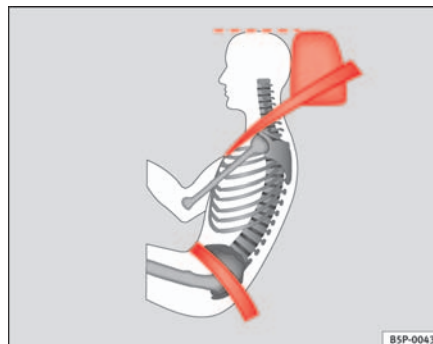

Fig. 13 Correct belt web and head restraint positions, viewed from side ▶
- The lap part of the seat belt must lie across the pelvis, never across the stomach. The seat belt must lie flat and snugly on the pelvis ⇒ page 22, fig. 13. Pull the belt tight, if necessary to take up any slack.